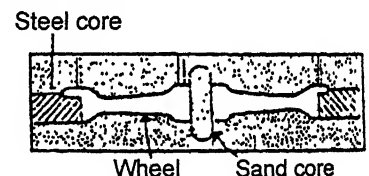

Fig. 8.16. Steel cores in a sand casting.
- These cores are usually made of steel (See Fig. 8.16) and are mostly used in the making of non-ferrous castings, acting as densers, and they also impart a fine finish.